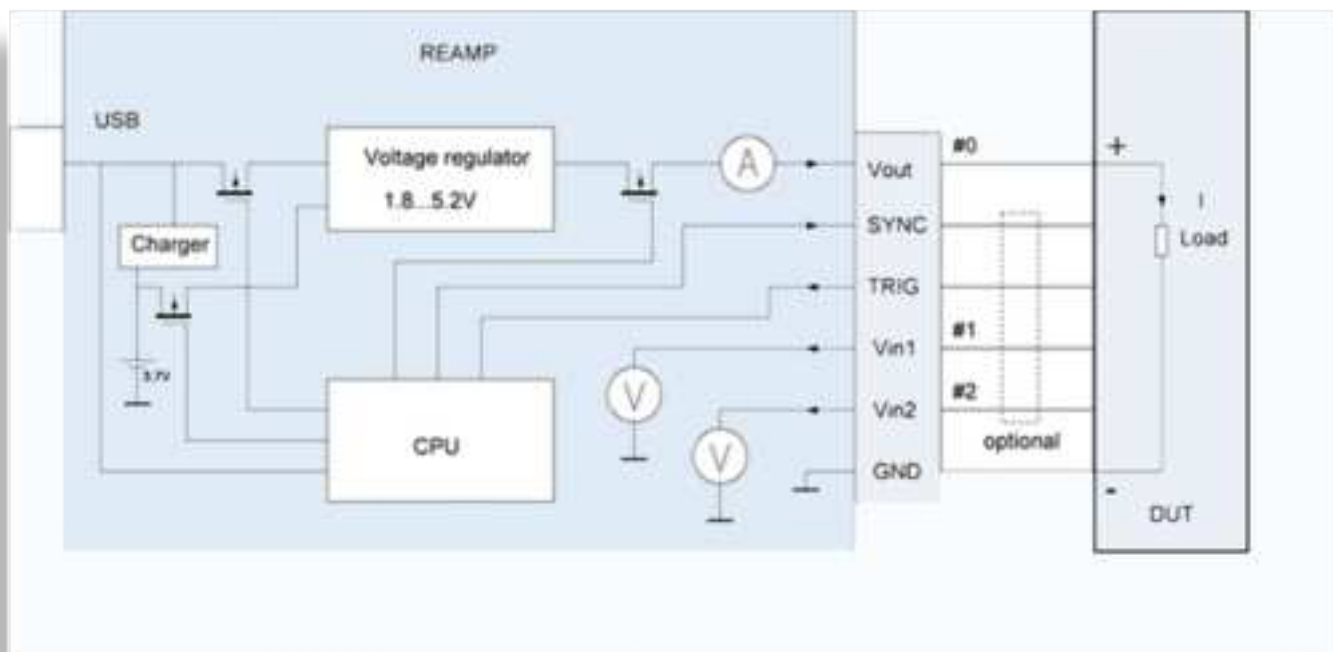

FIGURE 2.1: FUNCTIONAL AND CONNECTION DIAGRAM
Functional and connection diagram of REAMP device is shown on Figure 2.1.
A 6-position connector (Fig. 2.1) on the REAMP front panel is connected to the DUT by test probes included in the kit.
- Connect the DUT to REAMP as shown in diagram (Fig. 2.1.)